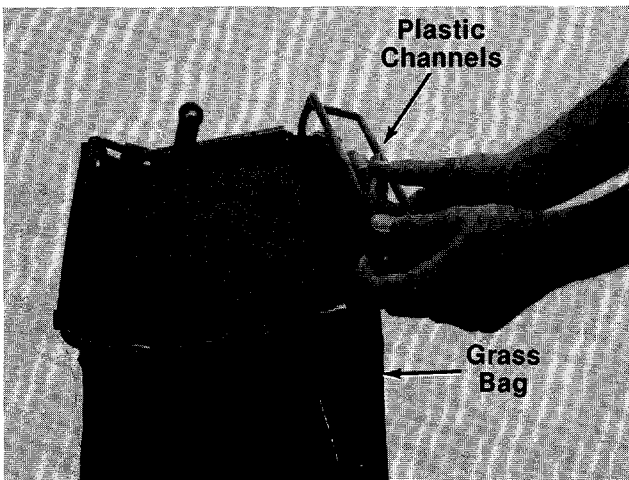

FIGURE 9.
3. Secure bag to frame by slipping plastic channels on bag over frame. See figure 9.